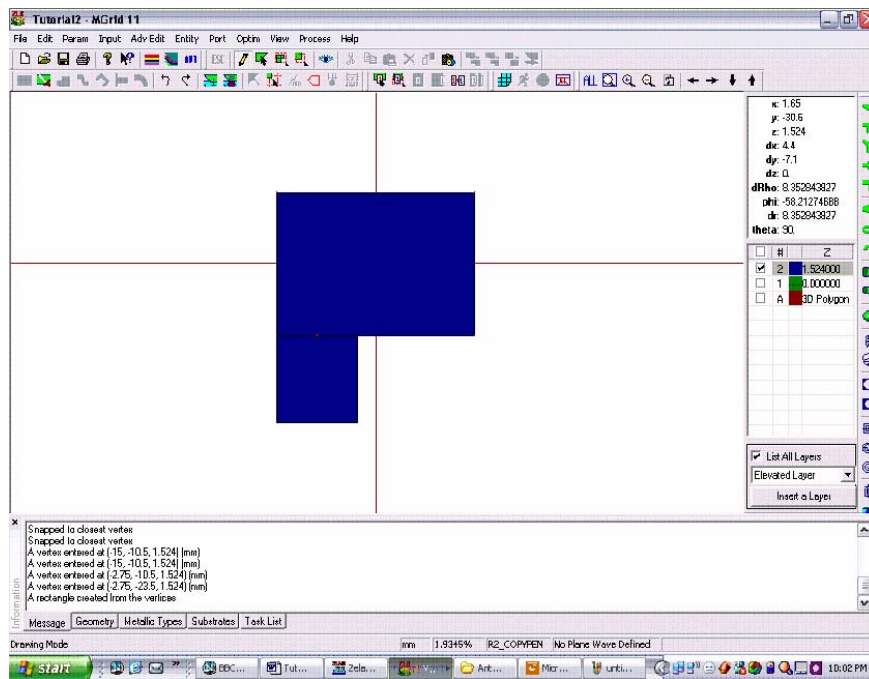

Figure 10.
- 11) Press Shift+F. This short cut creates a rectangle using the three vertices that are entered already; the alternative method is to enter the 4th vertex and the 5th vertex, which is the same as the first one. Your screen should look like Figure 10 at this stage. If this is not the case, you have made a mistake. Please check the previous steps.